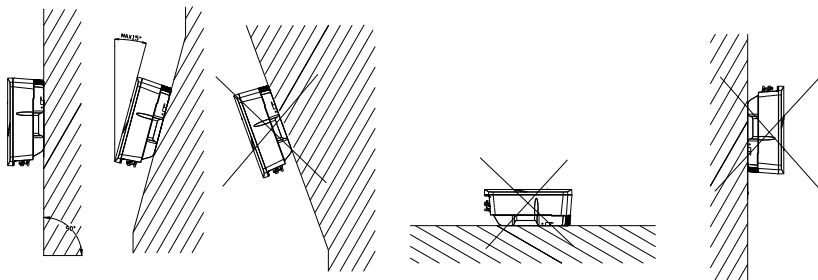

Figure 4.1 Mounting method
- ① The equipment employs natural convection cooling, and it can be installed indoor or outdoor.
- ② Please install the equipment under the guidance of Figure 4.1. Vertical installation on floor level is recommended. Mount vertically or tilted backwards by max. 15°. Never install the inverter tilted forwards, sideways, horizontally or upside down.
- ③ Considering convenience for maintenance, please install the equipment at a position in parallel with line of sight.
- ④ When mounting the inverter, please consider the solidity of wall for inverter, including accessories. Please ensure the Rear Panel tightly.